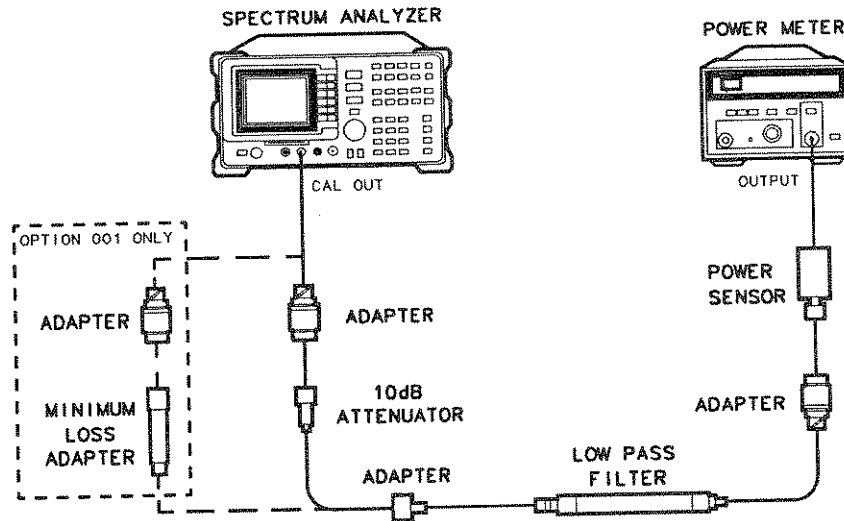

Figure 3-13. Calibrator Amplitude Accuracy Test Setup
- Connect the equipment as shown in Figure 3-13. The analyzer should be positioned so that the setup of the adapters, LPF and attenuator do not bind. It may be necessary to support the center of gravity of the devices.